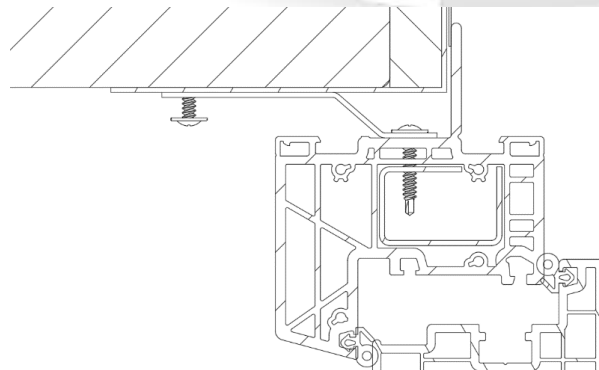

Figure 23: Door with sidelite head fastening detail with strap anchor.
l) See figure 23 utilizing fasteners as specified in section 5.1, B.